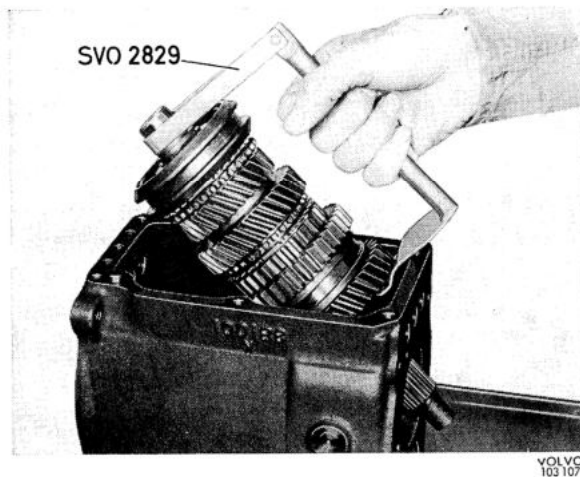

Fig. 4-22. Lifting out the mainshaft
9. Pull out the input shaft and remove the synchronizing ring. Remove the thrust washer from the mainshaft rear end. Fit lifting tool SVO 2829 on the mainshaft. Push the engaging sleeve for 1st and 2nd speed rearwards. Lift up the mainshaft as shown in Fig. 4-22.